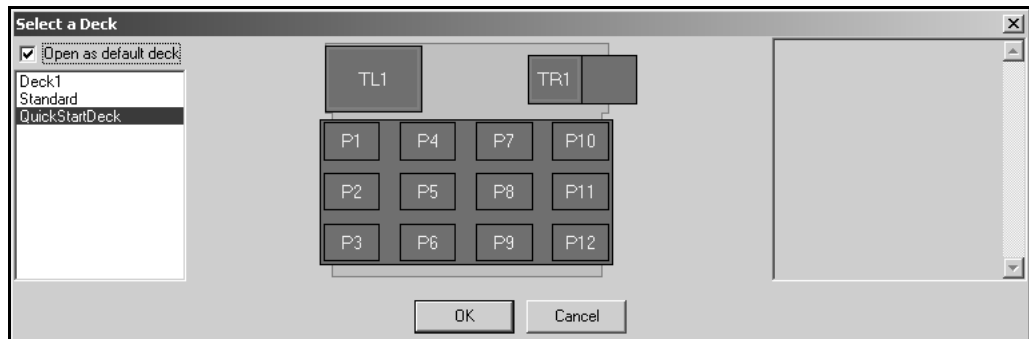

Figure 3-10. Select a Deck
6. Select **Open Deck**. Select a Deck appears (Figure 3-10).